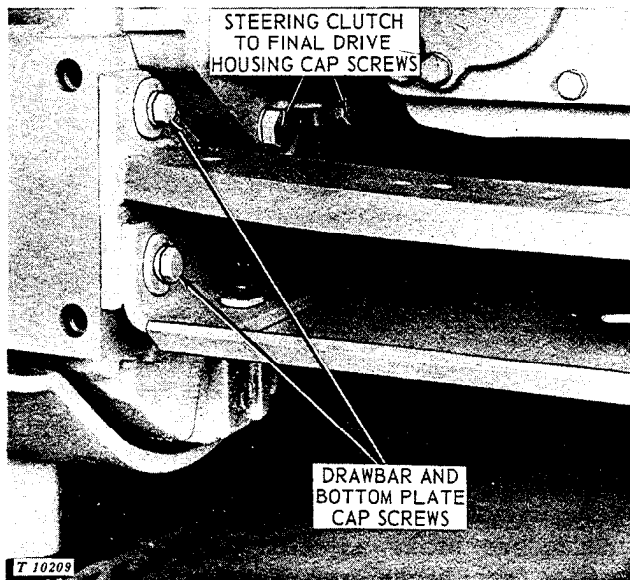

Fig. 20-15-4—Removing Drawbar and Steering Clutch Housing Attaching Cap Screws
10. Remove cap screws which attach drawbar quadrant and bottom plate to final drive housing (Fig. 20-15-4).
11. Under tractor, remove two inner cap screws attaching steering clutch housing to final drive (Fig. 20-15-4).